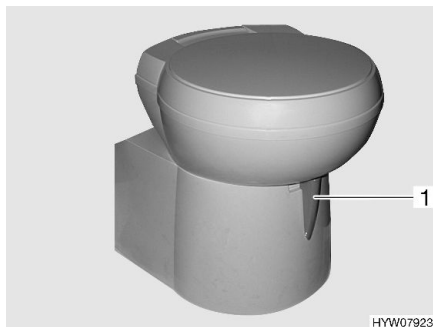

Fig. 110 Thetford toilet bowl (swivelling)
- Before flushing open the sliding trap of the Thetford toilet. To do this, push the slide lever (Fig. 110,1) in an anticlockwise direction.
- Turn the slide lever (Fig. 110,1) in a clockwise direction. The sliding trap is closed. To empty, the sliding trap in the Thetford toilet **must** be closed.